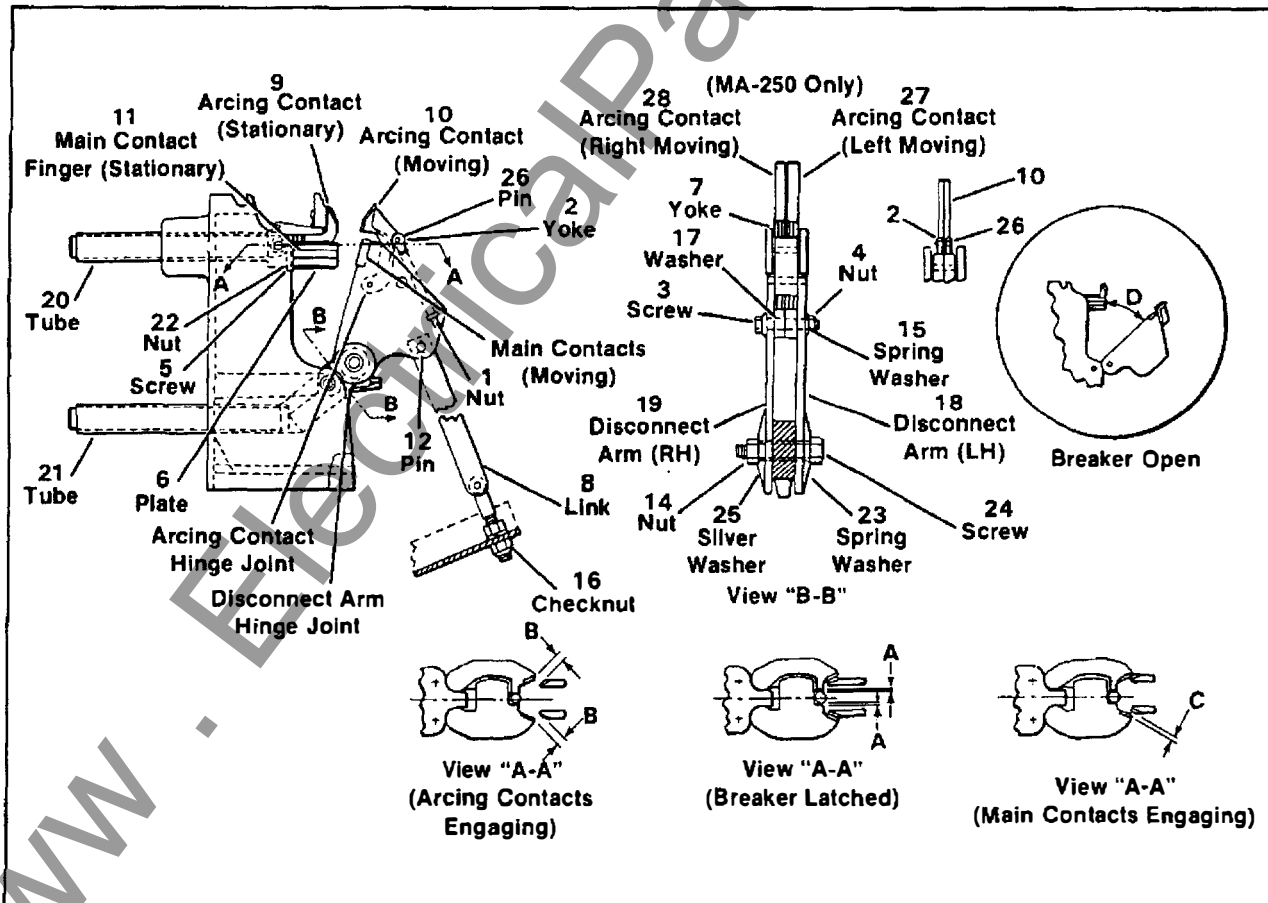

Figure 13. Stud and Support Assembly
Use these procedures if it becomes necessary to change contacts or reset contact alignment (refer to Fig. 13).
1. Push stationary contact fingers (item 11, Fig. 13) as far back as they will go on stud.
Dimension "d" (Breaker Open illustration of Fig. 13) is measured between the disconnect arm and the bottom of the second finger from the top in the main contact assembly. The open position is determined by the setting of the rod end at the top of the puffer piston rod. The rod end (if set too low) can affect the trip latch roller clearance. The optimum setting is to obtain the maximum open contact gap "d" while maintaining the specified trip latch roller clearance (see strip latch adjustment page 17). A dimension "d" of less than 3-11/16 in. (93.7 mm) indicates improper adjustment.
This measurement is obtained as follows: (Fig. 13)
The arcing contact hinge joint (Fig. 13) is in proper adjustment when each spring washer (15) is deflected approximately 0.015 inches (0.4 mm).
Examine the contacts, Fig. 13. The major junction of the air circuit breaker depends upon correct operation of its contacts. These circuit breakers have two distinct sets of contacts on each pole, main and arcing. When closed, practically the entire load current passes through the main contacts.